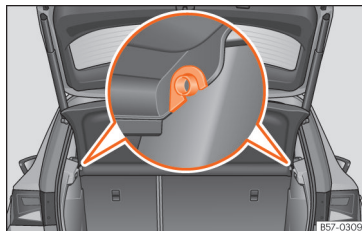

Fig. 165 In the boot: removing and installing the shelf.
- Remove the rear shelf from the side supports >>> Fig. 165 by pulling it upwards and then take it out.
- Insert the cover horizontally so that the “recess” fits onto the axis of the supports >>> Fig. 165 and press down until it engages.